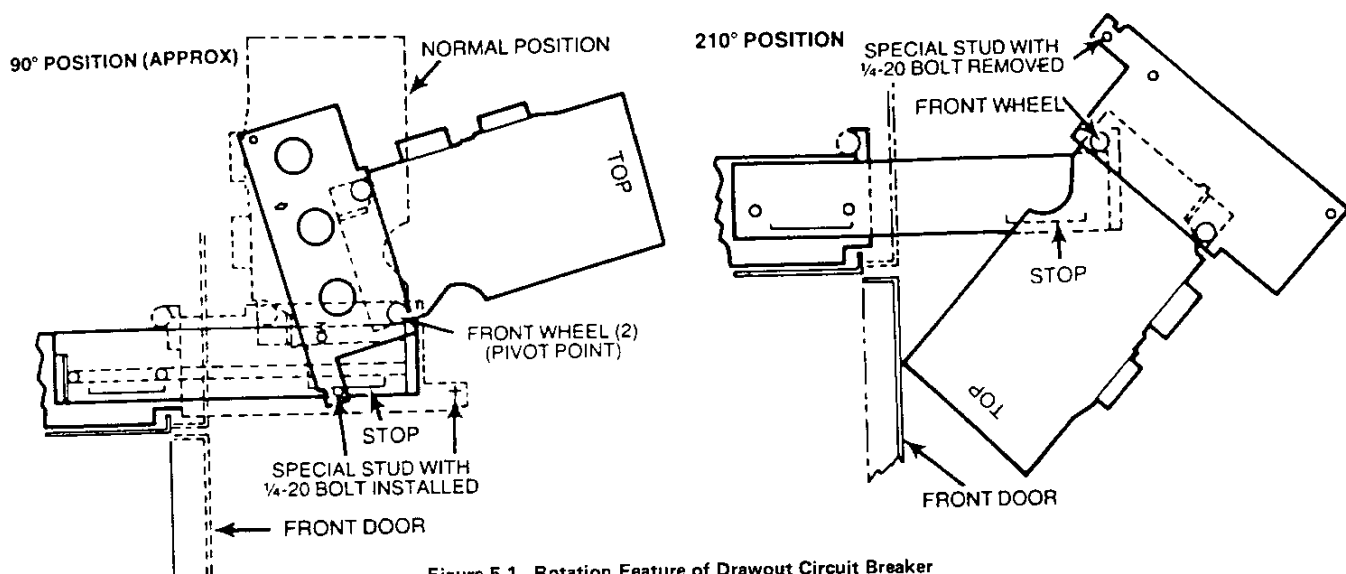

Figure 5-1 Rotation Feature of Drawout Circuit Breaker
5.1 ROTATION FEATURES (See Figure 5-1)
To rotate the circuit breaker 90°. See Figure 5-1.